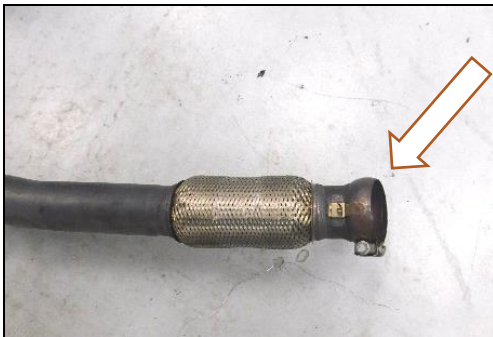

Figure 3
1. Remove the OE front exhaust clamp, and reuse on the Blackheart exhaust. Install the OE clamp in the same direction it came off. Install the Blackheart front pipe and install the hanger in the OE rubber isolator (**Figures 3 & 4**).